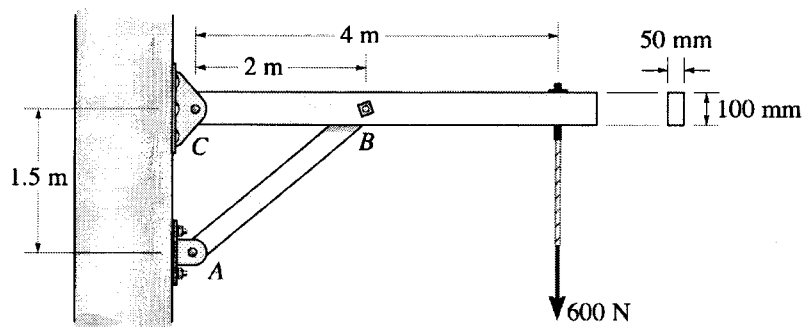

FIGURE Q3
- Q3** The beam CD on the utility pole supports the cable having a weight of 600 N. Please refer **Figure Q3**. If point A , B and C can be assumed to be pinned, determine:-